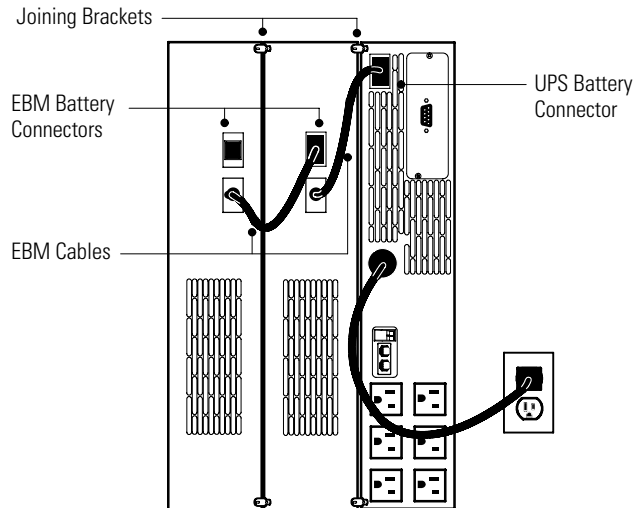

Figure 32. EBM Connections (120V Model Shown)
6. Plug the new EBM into the UPS as shown in Figure 32.